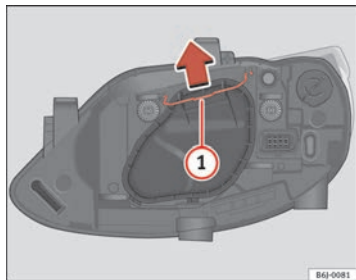

Fig. 150 Dipped beam/main beam, single headlight
- Remove the loop ⇒ fig. 150 ① in the direction of the arrow and remove the cover.
- Move the loop ① ⇒ fig. 150 in the direction of the arrow and remove the cover. ▶